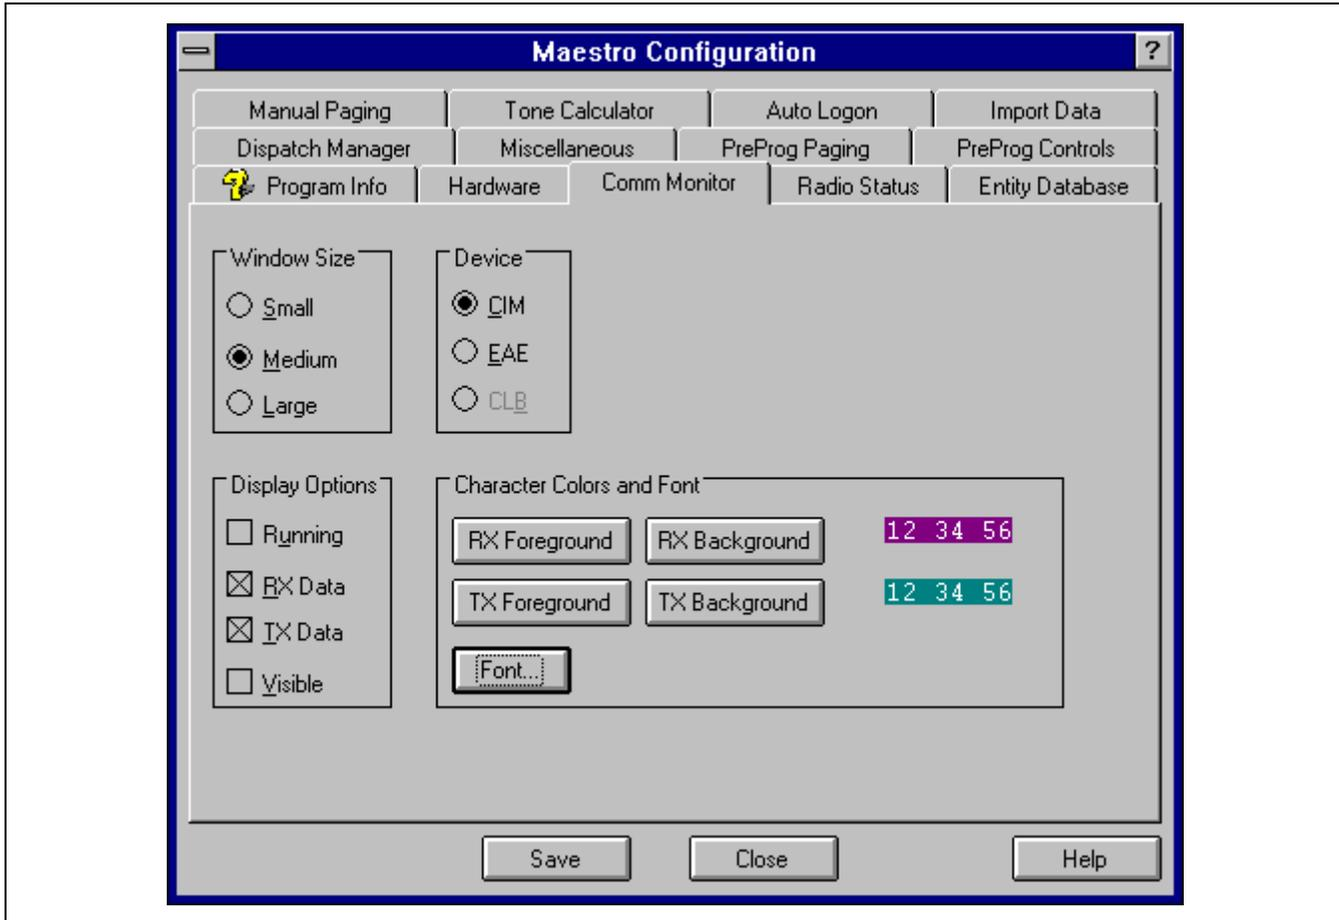
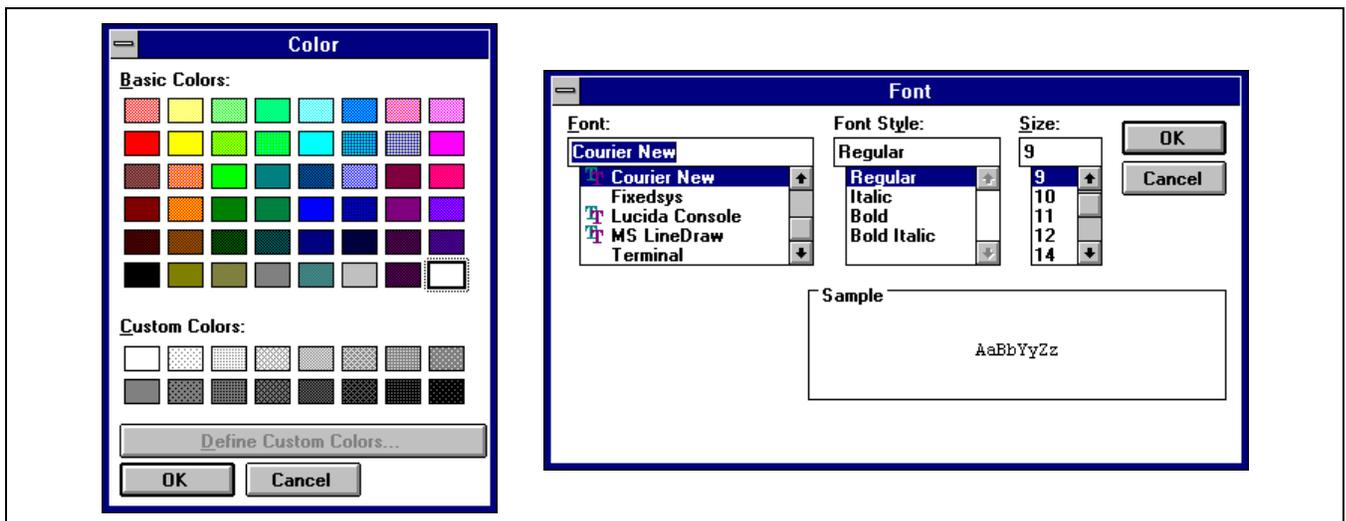

Figure 6-6 — Configuration Editor’s Comm Monitor Dialog Box
Figure 6-7 — Color and Font Sub-Dialog Boxes (accessible via Buttons on the Comm Monitor Dialog Box)
- **Comm Monitor**—This dialog box provides display configuration functions for the Communications Interface program’s monitor. Settings include device link monitored at start-up, window size at start-up, display options at start-up, font utilized, and TX and RX font colors. See Figure 6-6, and Figure 6-7 which shows two related sub-dialog boxes.